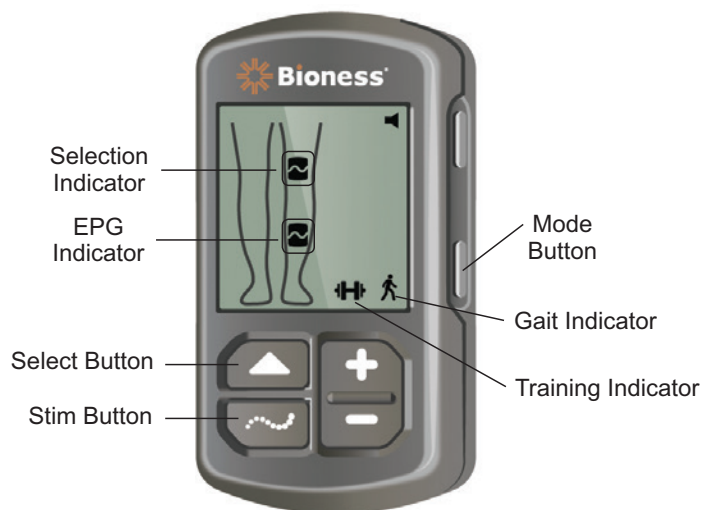

Figure 4-8: Selecting a Operating Mode on the Control Unit
4. For patients using both the lower leg FS Cuff and thigh FS Cuff the Select button on the Control Unit can be used to toggle between the lower leg EPG and thigh EPG or to select both EPGs. See Figure 4-8.
5. To select gait mode, press the Mode button on the Control Unit until the Gait Indicator icon appears in the lower right corner of the digital display. See Figure 4-8.
6. To select training mode, press the Mode button on the Control Unit until the Training Indicator icon appears in the lower right corner of the digital display. See Figure 4-8.
3. To stop stimulation, press the stim button on the control unit. See Figure 4-8.